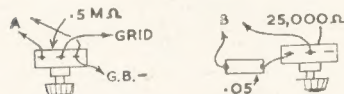

Fig. 3—Adding volume and tone controls
reaction control often provides all that is necessary in this direction, but does not function when records are played with a pick-up. A potentiometer may be added (see (A), Fig. 3) to give full control of volume on radio, gram or with a microphone.
The detail at Fig. 3 also shows how a tone control can be added. Again, though a 25,000 ohm variable resistor or potentiometer is shown, a value from 10,000 ohms to 50,000 ohms is quite suitable. The condenser can also be of other capacities, though something